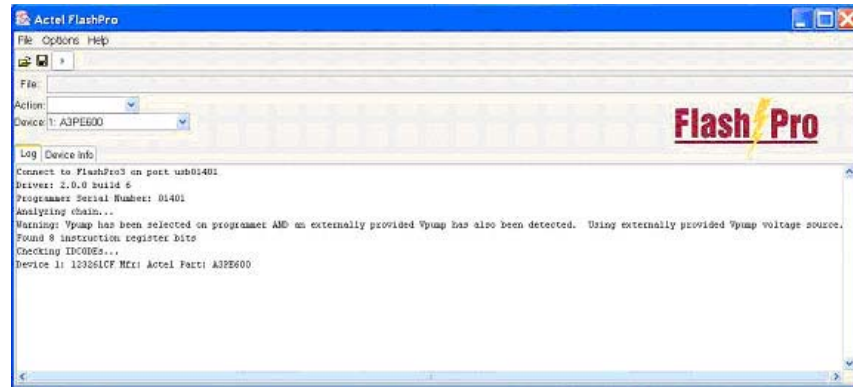

Figure 7-41 • FlashPro3: Analyzing Chain—A3PE600
1. From the File menu, click **Analyze Chain**. Chain details appear in the Log window, as shown in Figure 7-41.
2. If any failures appear, refer to the error and troubleshooting section of the FlashPro User's Guide. If you have an A3PE600 device on board, you will see the message shown in Figure 7-41.